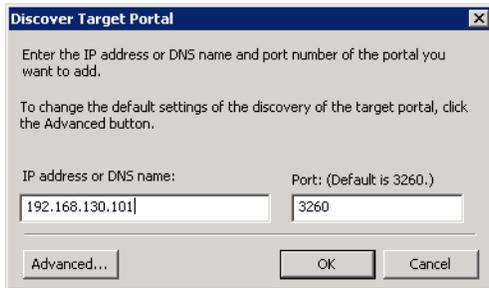

Figure 4-39 Adding new target portals
- Click the **Discovery Ports** button to add new portals. Enter the DS iSCSI controllerA IP address and click **Ok**. Repeat the same process to add the iSCSI controllerB, as shown in Figure 4-39.